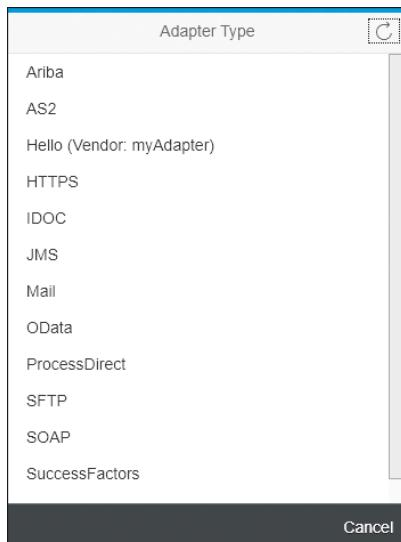

Figure 6.107 New Adapter Offered When Creating a Channel
3. Add a new **Sender** channel between the **Sender** pool and the message **Start** event. You'll notice the new adapter type **Hello** in the **Adapter Type** list (Figure 6.107).